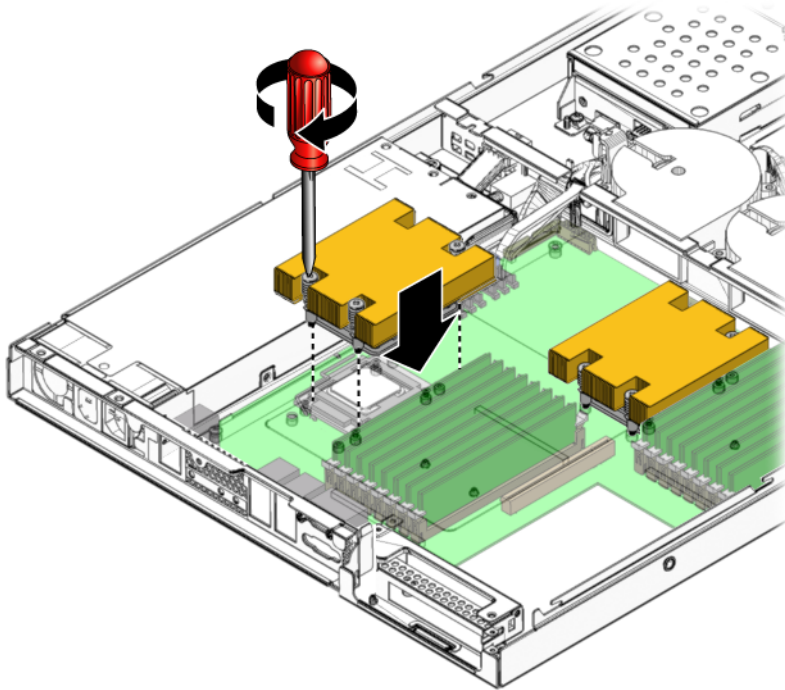

FIGURE 4-34 Installing the Heatsink
10. Fasten the four screws attaching the heatsink to the motherboard. See FIGURE 4-34.